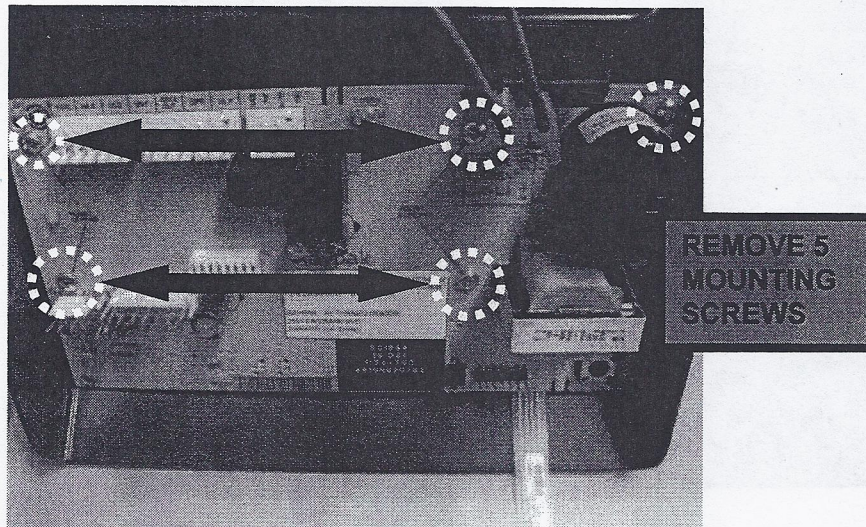

Fig. 6
3. Remove the five mounting screws as shown in Fig. 6.